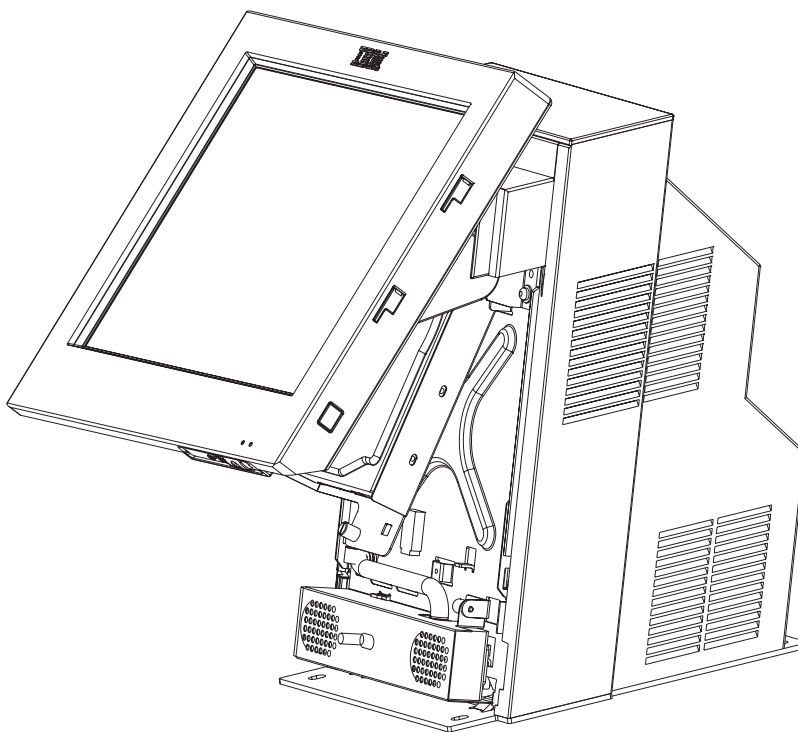

Figure 16. Installing the HDD and HDD bracket
2. Tilt back the tablet (as shown in Figure 16), or optionally remove the tablet.